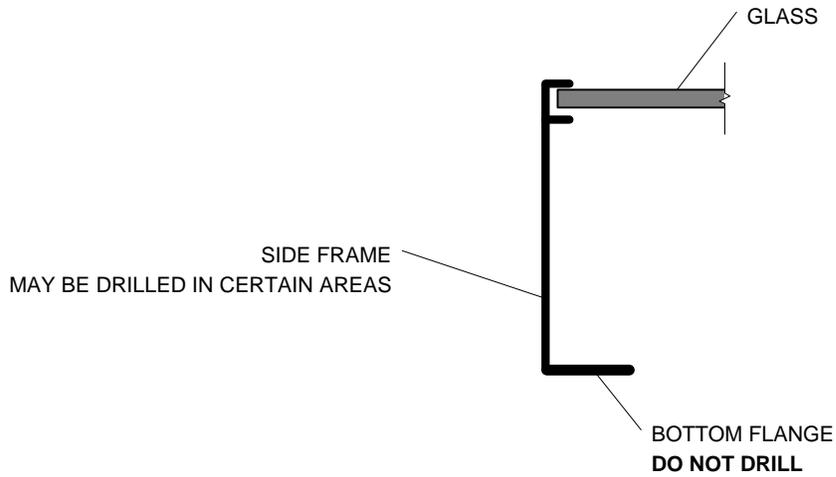
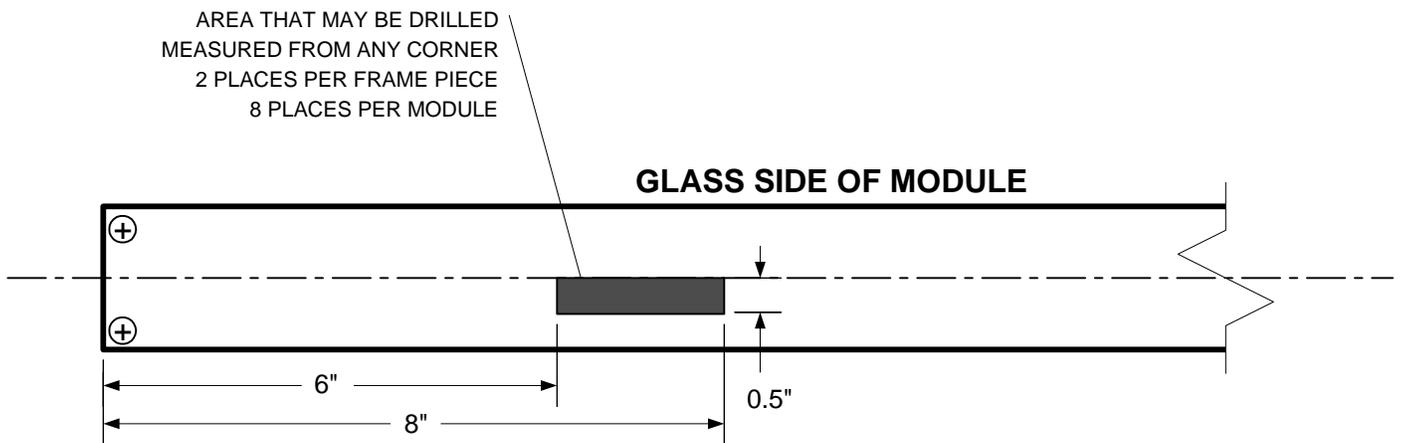

Figure 1 - Cross-section of module frame showing where a hole may be drilled
Figure 2 - Area on any side of module frame that may be drilled
- 1) **Drill Hole into Frame:** You may drill a hole in the side frame of the module. See Figure 1 for an illustration of the location of the side frame and bottom flange. To maintain the structural integrity of the module frame, you should confine any hole drilled to a specific area as shown in Figure 2. There are eight such areas on each module from which to choose. Three options are described below.
Each of the two self-tapping fasteners must be drilled in the area defined in Figure 2. Keep in mind that there are two such areas on each section of frame. Each area is located by measuring in from each corner of the frame.